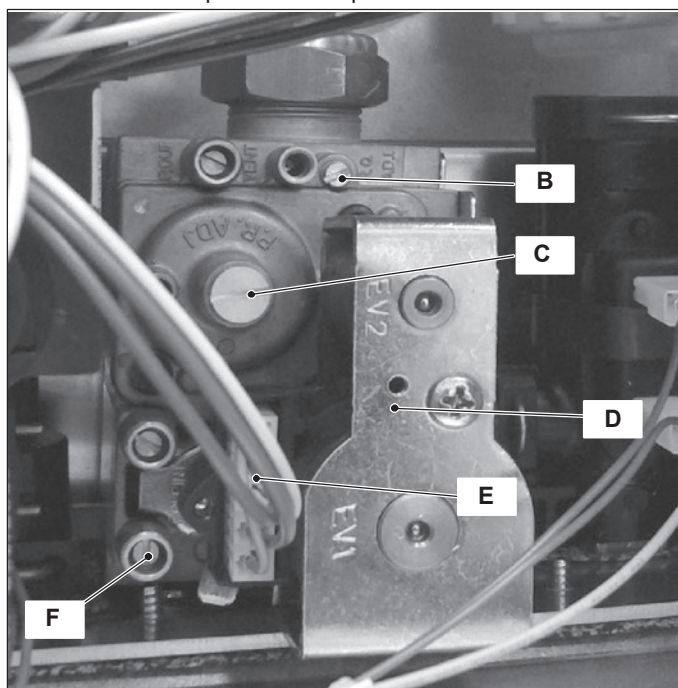
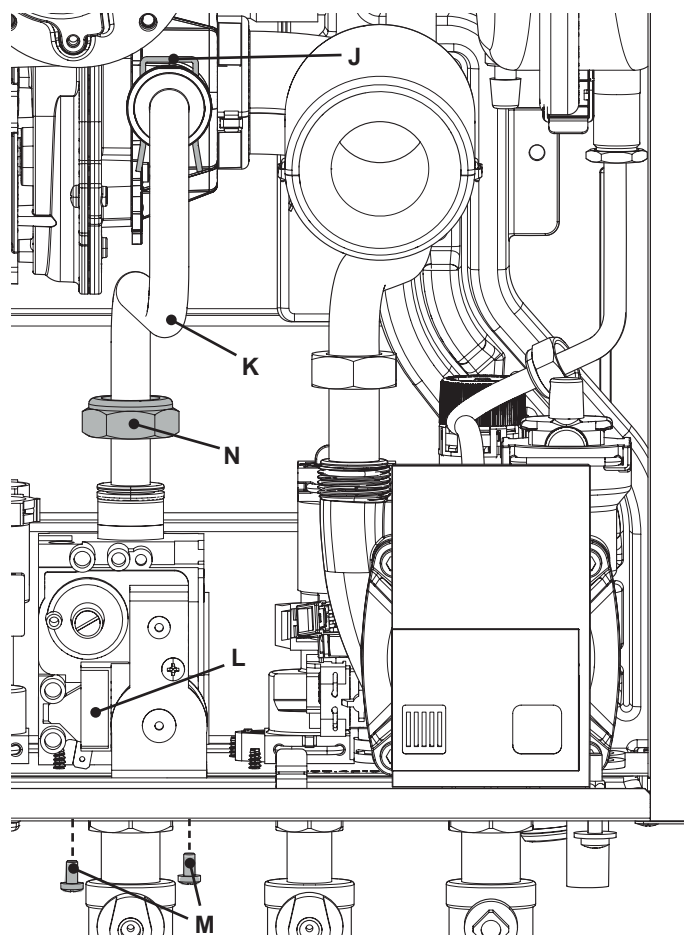

Figure 11.2
Figure 11.12
(Figure 11.2)
- 3 Loosen the internal screw on the Inlet Pressure Test Point "F" (Figure 11.2) of the Gas valve and connect a pressure gauge using a suitable hose.
- 10 Disconnect the pressure gauge and close the Inlet Pressure Test Point "F" (Figure 11.2).
To adjust the CO₂ % value remove the brass plug by unscrewing it and rotate the Allen key screw Ø 4 mm ("C" - Figure 11.2) (by rotating it clockwise the CO₂ % increases).
To adjust the CO₂ % value rotate screw ("B" - Figure 11.2) (by rotating it clockwise the CO₂ % decreases).
- 27 After adjustment fit the protective brass plug ("C" - Figure 11.2).
- 2 Disconnect the electrical connector "E" (Figure 11.2).
- 2 Disconnect the connector "L" (Figure 11.12), see also connector "E" (Figure 11.2).
- 4 Unscrew the connector "N" (Figure 11.12), remove the fixing fork "J" and remove the pipe "K".
- 5 Unscrew the screws "M" and remove the valve (Figure 11.12).